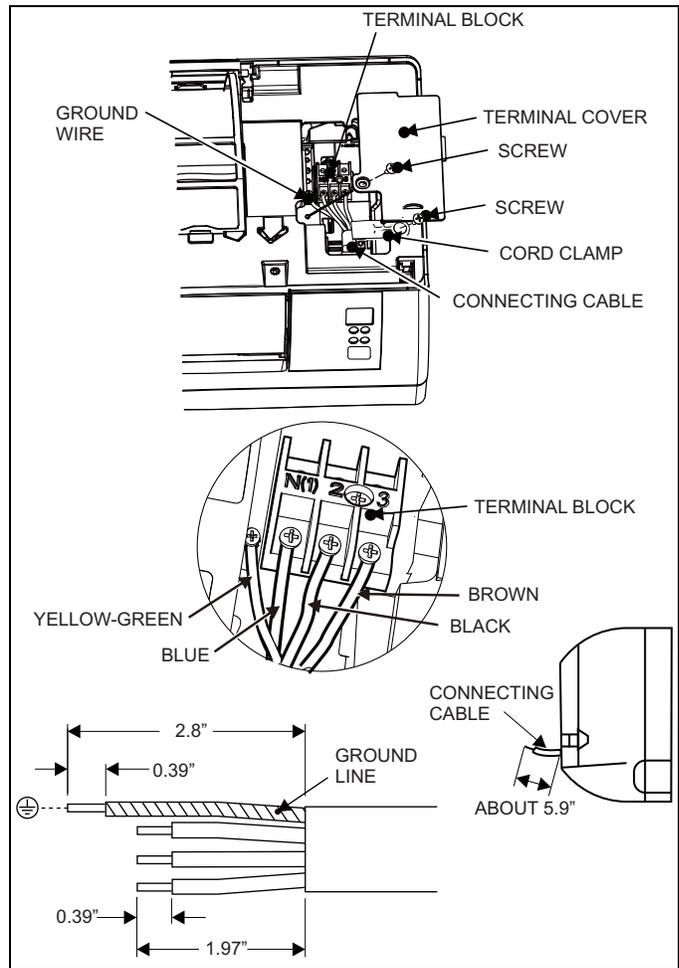

FIGURE 12: Indoor Electrical Wiring Connections
7. Insert the connecting cable fully into the terminal block and secure it with screws while making sure no part of its core is visible. Make sure you don't mis-wire the unit. See Figure 12.